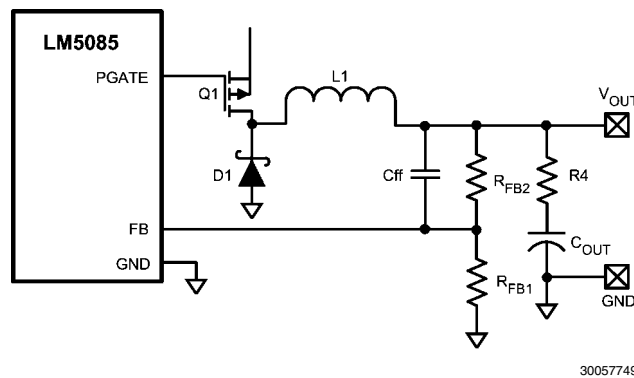
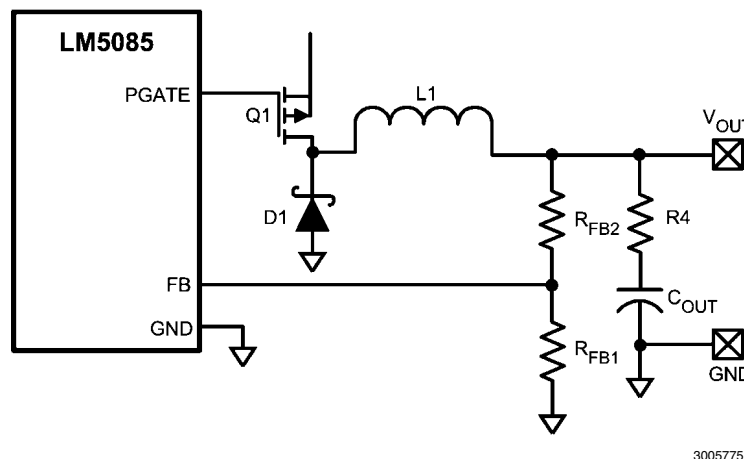

FIGURE 9. Reduced Ripple Configuration
FIGURE 10. Lowest Cost Ripple Generating Configuration
**a) Reduced ripple configuration:** In Figure 9, R3, C1 and C2 are removed (compared to Figure 4). A low value resistor (R4) is added in series with  $C_{OUT}$ , and a capacitor (Cff) is added across  $R_{FB2}$ . Ripple is generated at  $V_{OUT}$  by the inductor's ripple current flowing through R4, and that ripple voltage is passed to the FB pin via Cff. The ripple at  $V_{OUT}$  can
**b) Lowest cost configuration:** This configuration, shown in Figure 10, is the same as Figure 9 except Cff is removed. Since the ripple voltage at  $V_{OUT}$  is attenuated by  $R_{FB2}$  and  $R_{FB1}$ , the minimum ripple required at  $V_{OUT}$  is equal to: